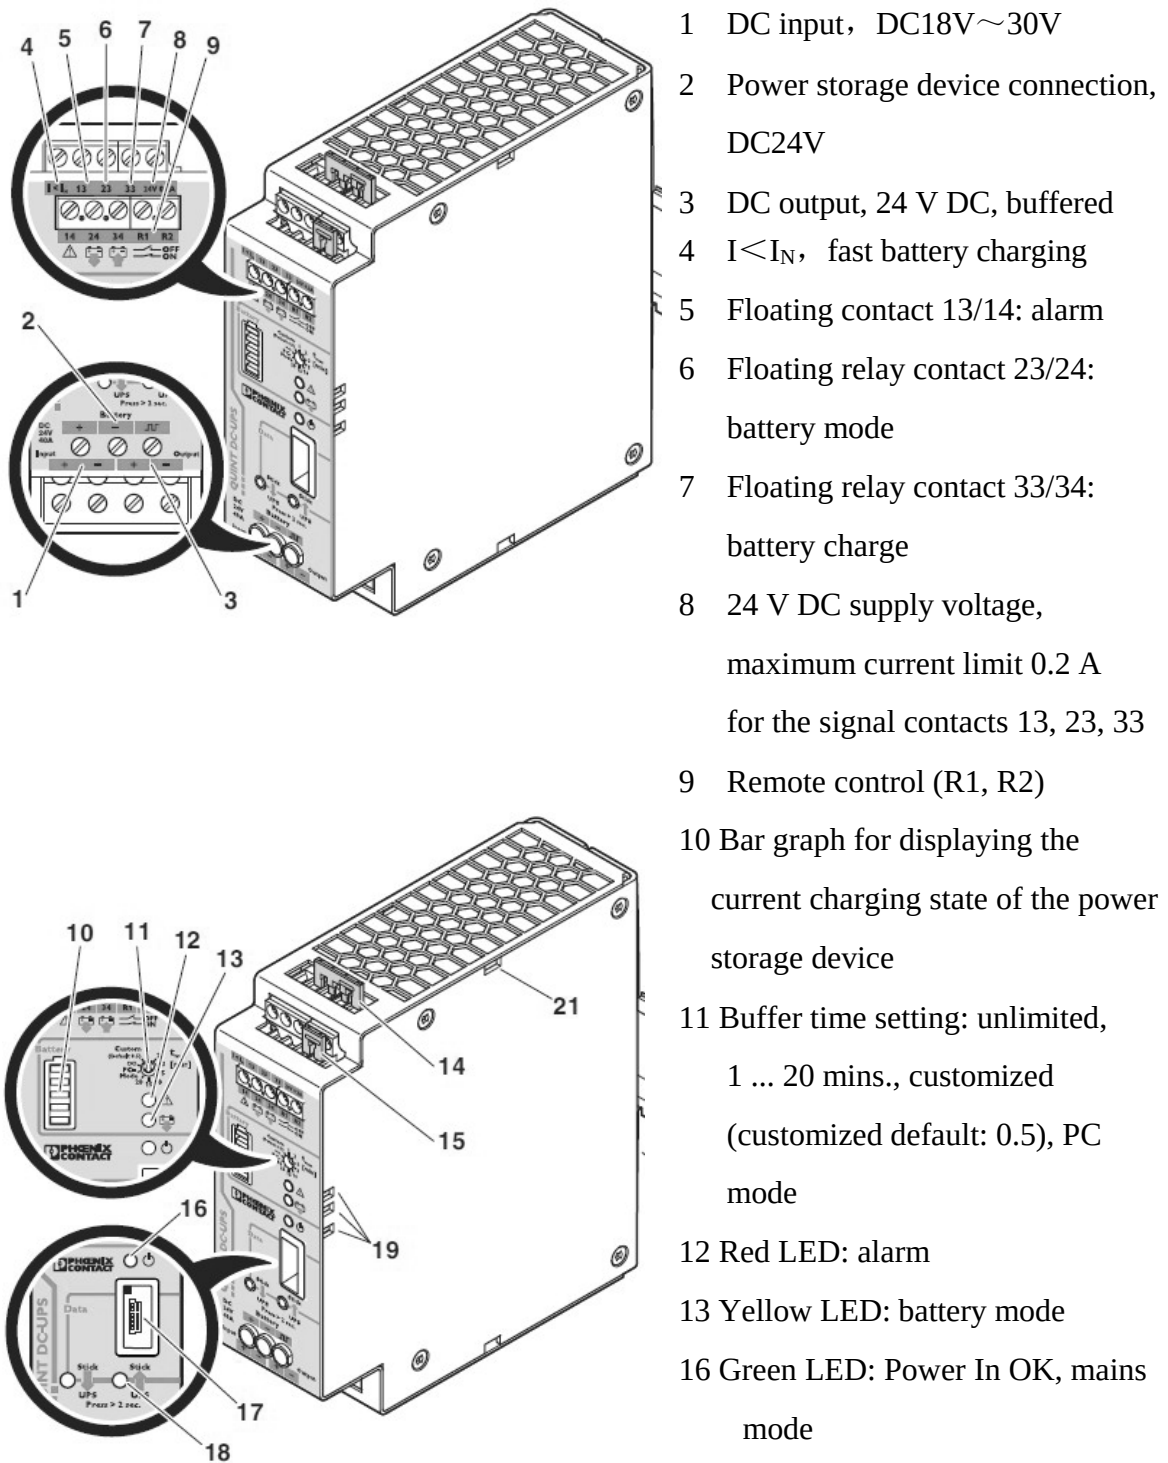

Fig. 7 UPS appearance and interface diagram
3.2.2 UPS appearance and interface specification (Fig. 7)